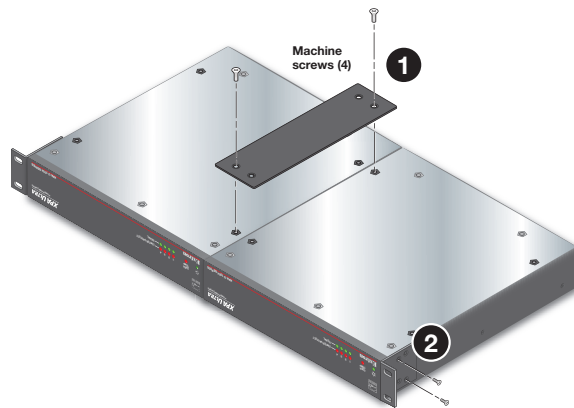

Figure 5. Install XPA Ultra Series Bridge Plate
3. Use the bridge plate connector and four provided #4 machine screws to connect the two amplifiers together (see figure 5, **1**).